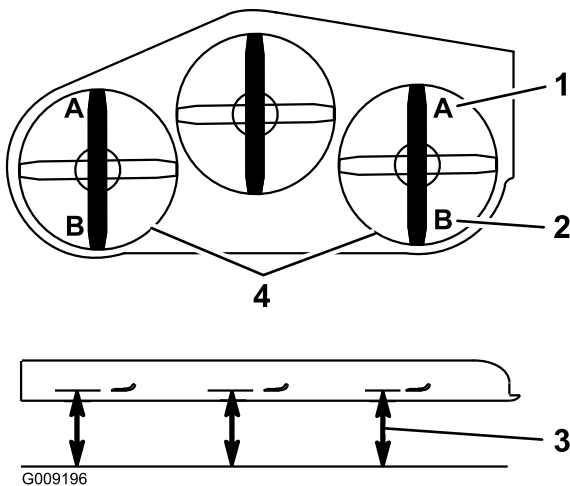

Figure 85
9. On both sides of the deck, measure from the level surface to the front tip of the blade (Position A). The measurement should read 7.6 mm (3 inches) (Figure 85).
15. On both sides of the deck, measure from the level surface to the back tip of the blade (Position B). The measurement should read 8.3 cm (3-1/4 inches) (Figure 85).